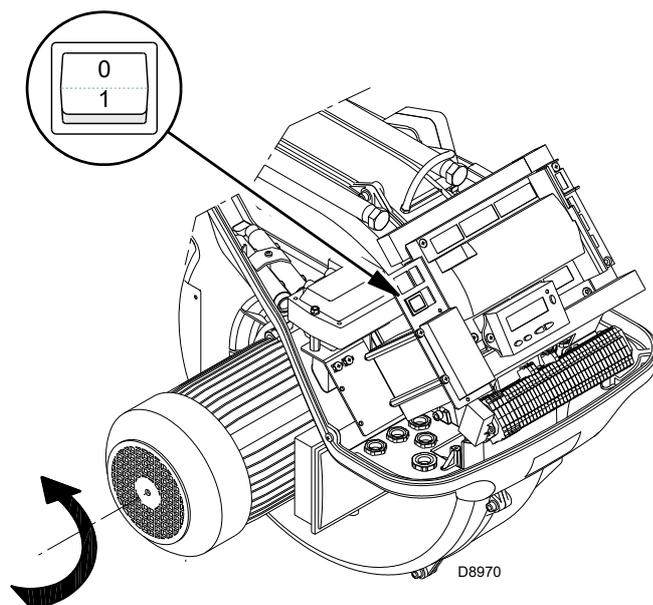

Fig. 33
Close the thermostats/pressure switches and turn the switch of Fig. 33 to position "1".
As soon as the burner starts up, go in front of the cooling fan of the fan motor and check it is rotating anticlockwise. See Fig. 33.
- place the switch of Fig. 33 in position "0" and wait for the control box to carry out the switch-off phase;
The burner is in the heat request waiting mode, or the selector "0-1" (Fig. 33 at page 33) is at "0".